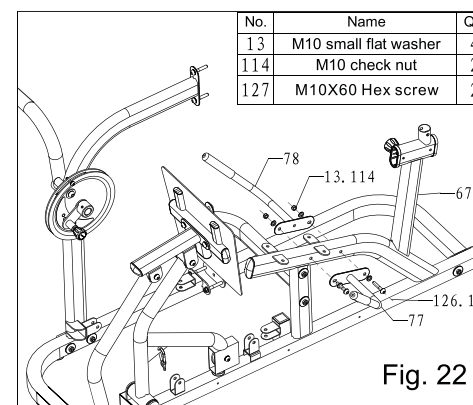

Fig. 22
Step 22: Gripping handle assembly (as shown in Fig. 22)